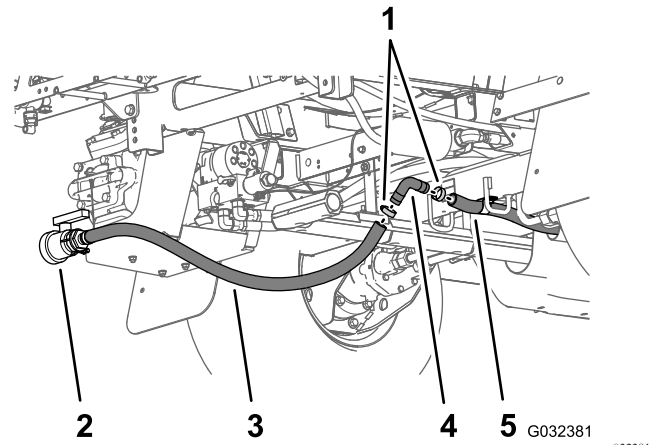

Figure 55
- Insert the 90° barbed fitting that you removed in step 3 into the drain-valve hose and the rear tank-drain hose (Figure 55).
- Secure the 90° barbed fitting and drain hoses with the 2 hose clamps that you removed in step 2 (Figure 55).